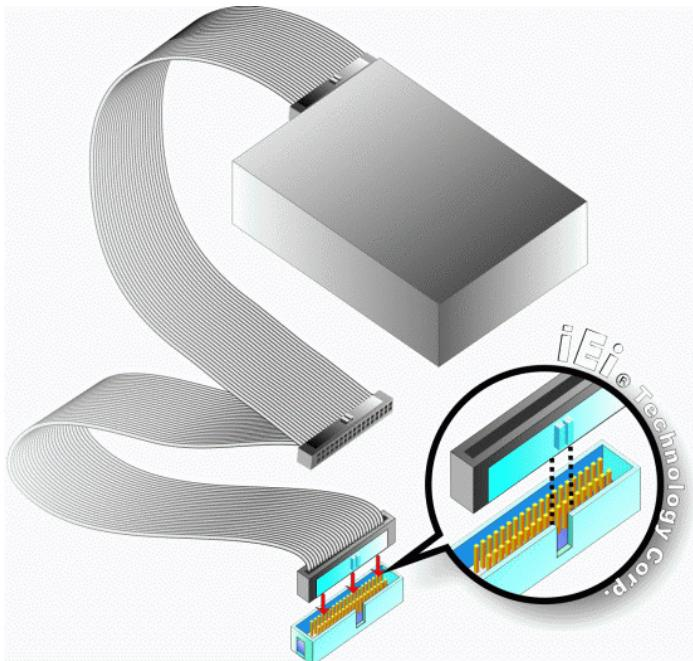

Figure 5-17: IDE Cable Connection
Step 2: Insert the connector. Connect the IDE cable connector to the onboard connector. See **Figure 5-17**. A key on the front of the cable connector ensures it can only be inserted in one direction.